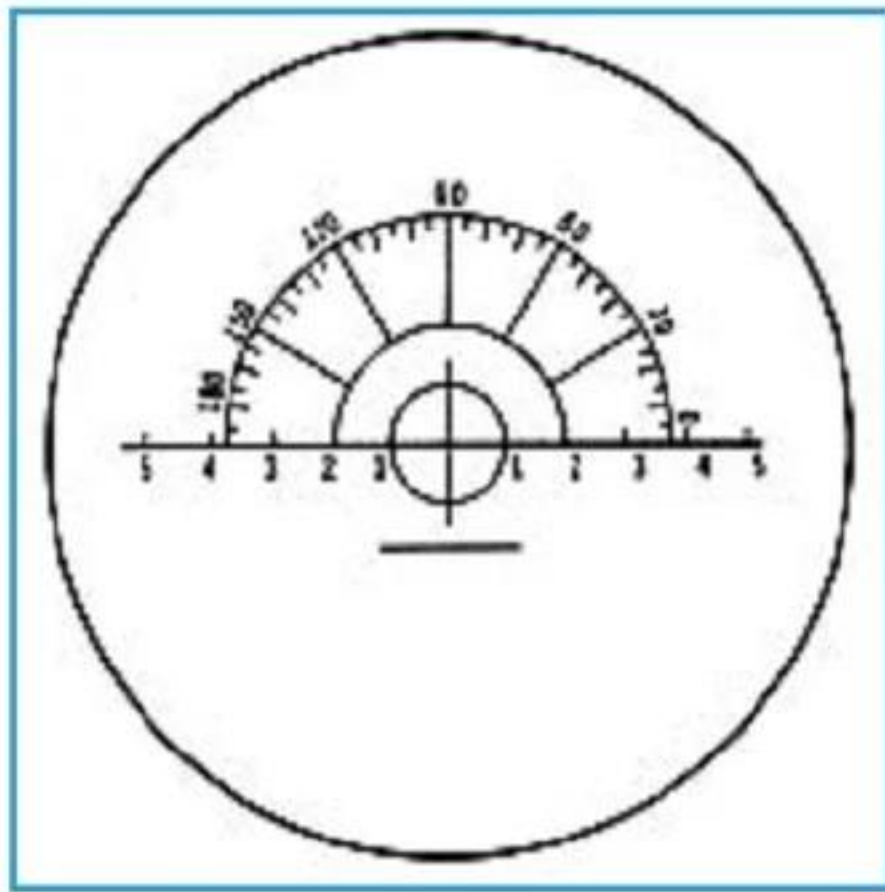
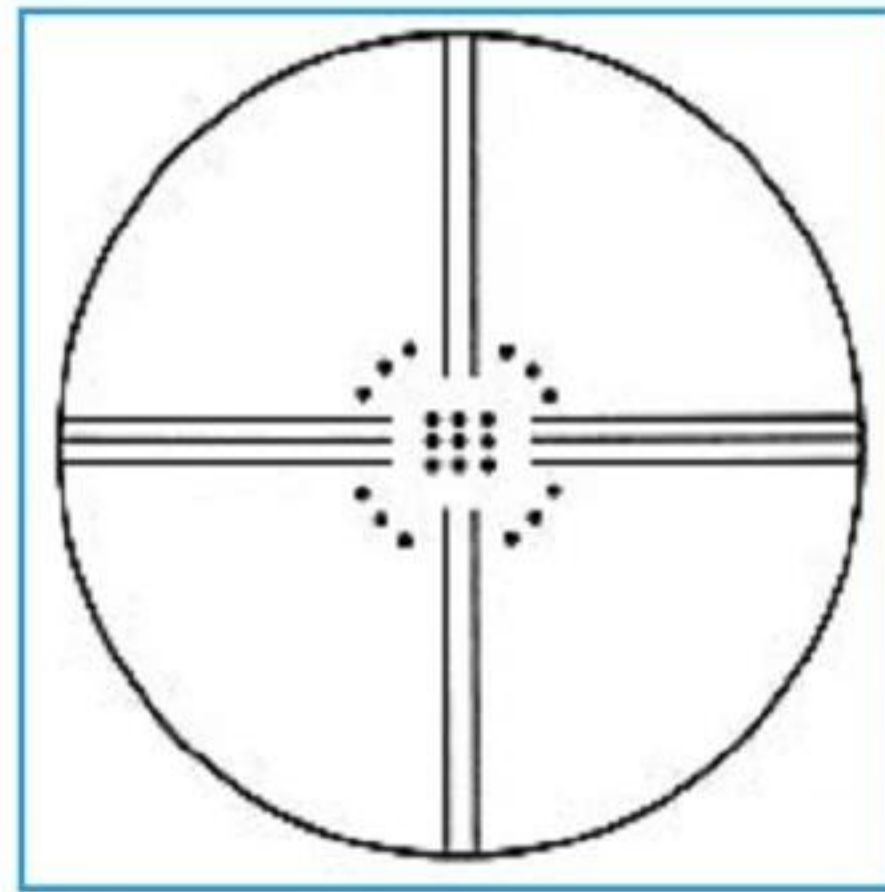

Fig. 3
Fig. 4
3.2 Eyepiece reticule and marker reticule (Fig.3, Fig.4)
Reticule in the field of view of eyepiece is shown as Fig. 3. On the reticule is divided with measuring scale and dividing disc of prism degree. Integer degree of prism is directly read on the measuring scale and decimal one estimated according to the degree on the measuring scale. The dividing disc is ruled with an interval of 5° . The marker reticule is shown as Fig. 4, 3 long green lines are in the horizontal position.